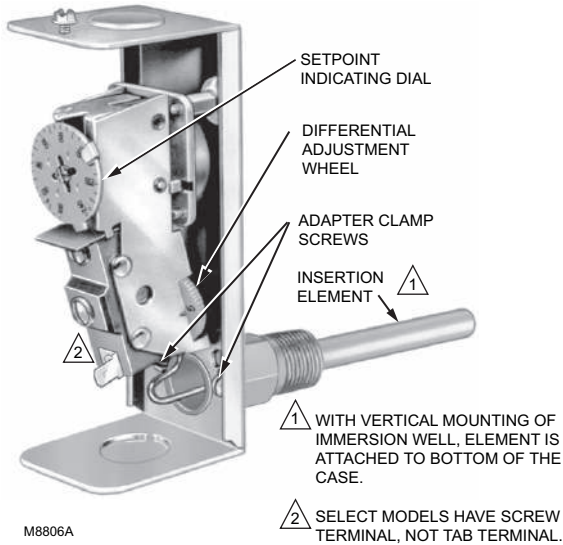

Fig. 6. Internal view of L6006A.
1. Loosen the screw (at the top of the case, above the scale setting), and remove the cover. Loosen the two screws that secure the adapter clamp. (See Fig. 6).